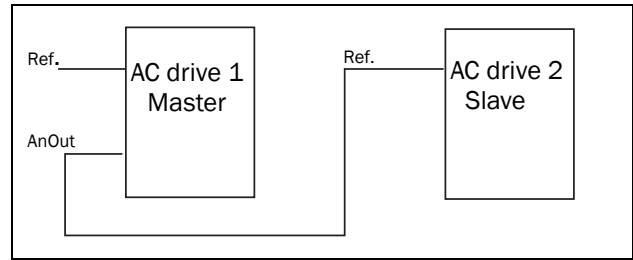

Fig. 123
- a reference signal for the next AC drive in a Master/Slave configuration (see Fig. 123).